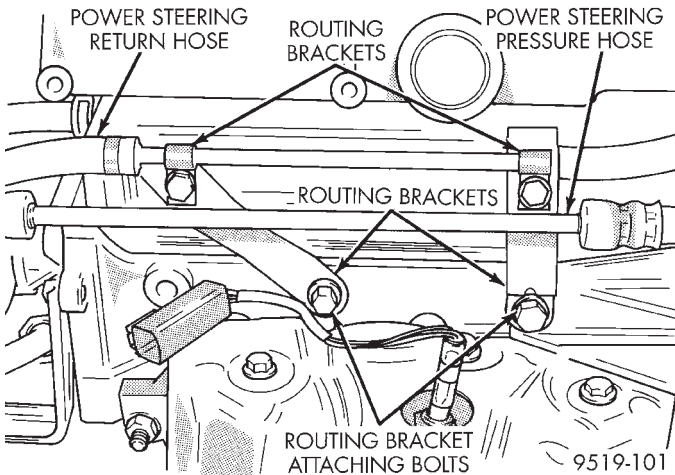

Fig. 22 2.5 Liter Power Steering Hose Routing
(7) If vehicle is equipped with a 2.5 liter engine, remove the 2 routing brackets (Fig. 22) attaching the power steering return hose to the power steering pressure hose routing brackets.
(8) Remove the power steering return hose from the vehicle. The power steering return hose is removed from the bottom of the engine compartment.
(8) **If vehicle is equipped with a 2.5 liter engine**, install the 2 routing brackets (Fig. 22) attaching the power steering return hose to the power steering pressure hose routing brackets.